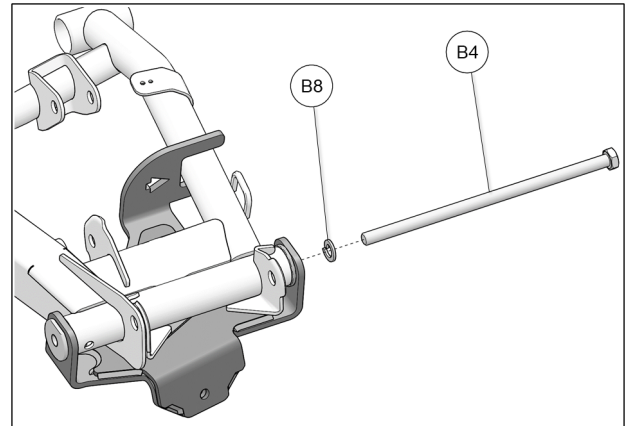

Fig. 8
9. Slide Lockwasher (B8) on M12x260mm bolt (B4); insert bolt through anchor bracket, T-Bushing (B5), and suspension arm until threaded T-Bushing (B6) is reached. Thread bolt in bushing and torque to 85 N•m [63 lb•ft]. See Fig. 8